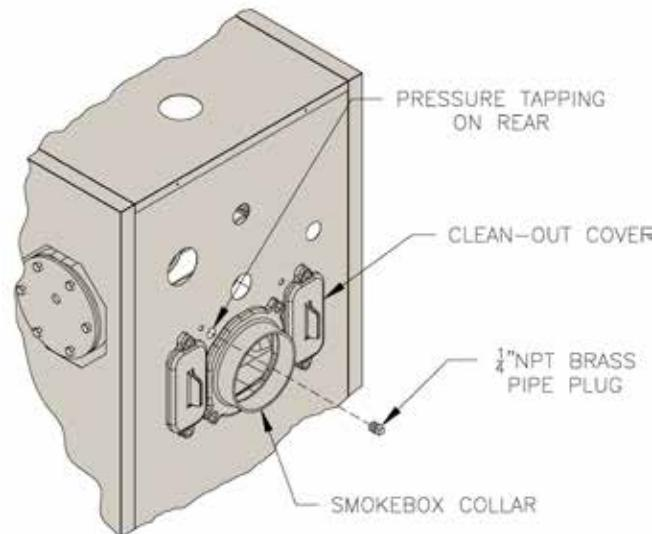

Figure 19: Smokebox Pressure Tapping for Checking Draft at Breech
2. Minimum Draft at Breech (Canopy) – The draft induced by a chimney must create at least a pressure of 0 (zero) inches water column (" w.c.) at the pressure tapping on the canopy mounted on rear of boiler (see Figure 19). The pressure at the canopy cannot be positive since this could create a condition that allows flue gas by-products to escape from the draft regulator. A negative pressure reading up to -.03 inches water column is acceptable for proper operation. (See Table 11) Burner Specifications at the rear of this manual for more details)